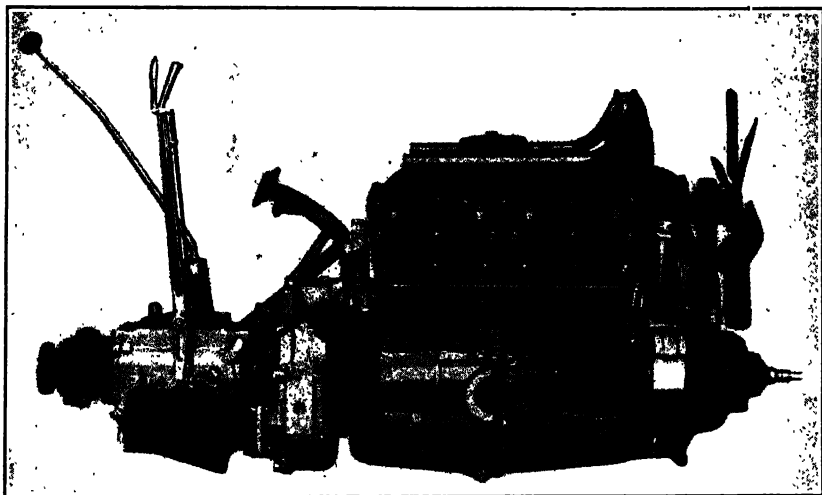

FIG. 79.—Eight-cylinder, V-type Engine. (Cadillac.)
- (c) Multi-cylinder (see Fig. 79).